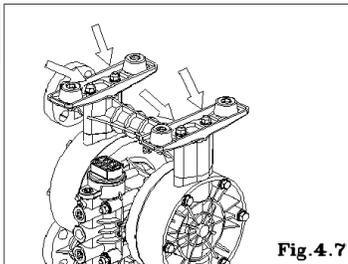

Fig.4.7
- Turn over the main body assembly. [Fig.4.7]